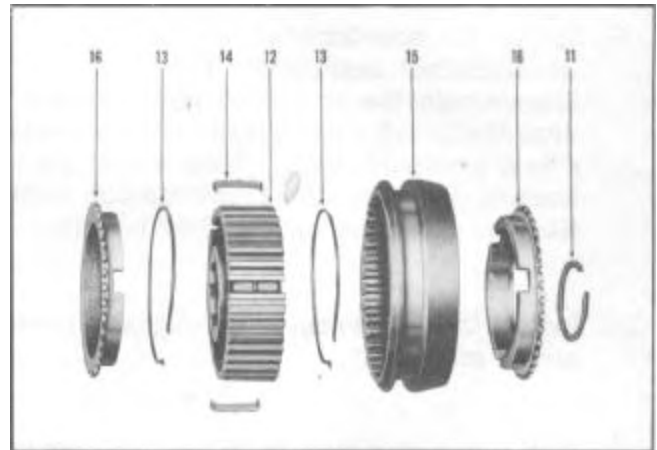

FIGURE 25
1. Place the 3 synchronizer shift plates in the shift sleeve hub. Install the two synchronizer springs so that one end of each spring rests in the same groove of shift plate with the free ends running in opposite directions, Figure 25.